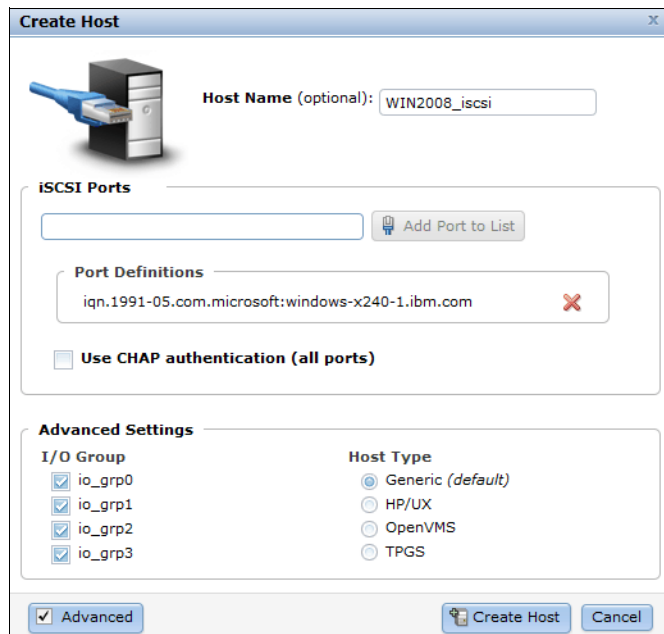

Figure 6-29 New Host creation - iSCSI port defined
5. Click **Create Host**. Figure 6-29 shows the final step of creating the iSCSI host.